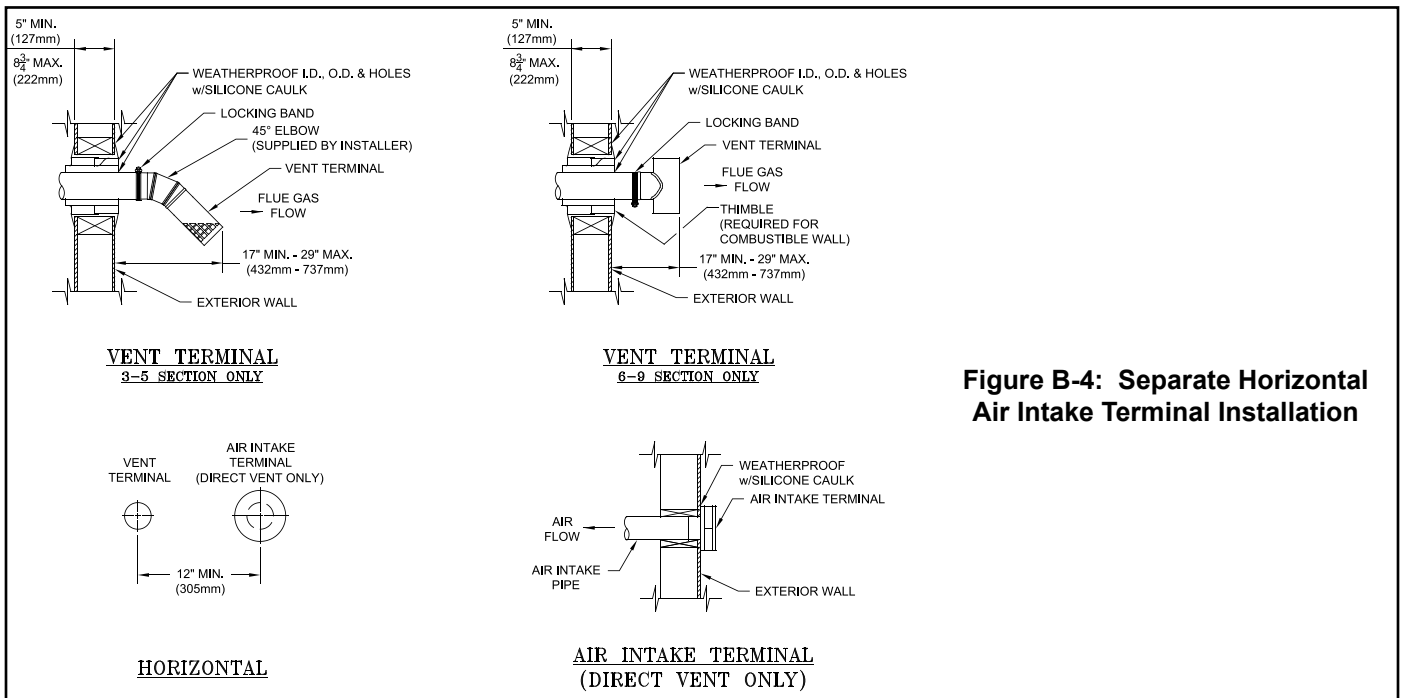

Figure B-4: Separate Horizontal Air Intake Terminal Installation
- Where the vent pipe penetrates any combustible wall (Figure B-4):
3. Maintain 12" separation between vent and intake terminals. Where the intake air pipe penetrates the external wall, seal the opening with weatherproof sealant (Figure B-4).